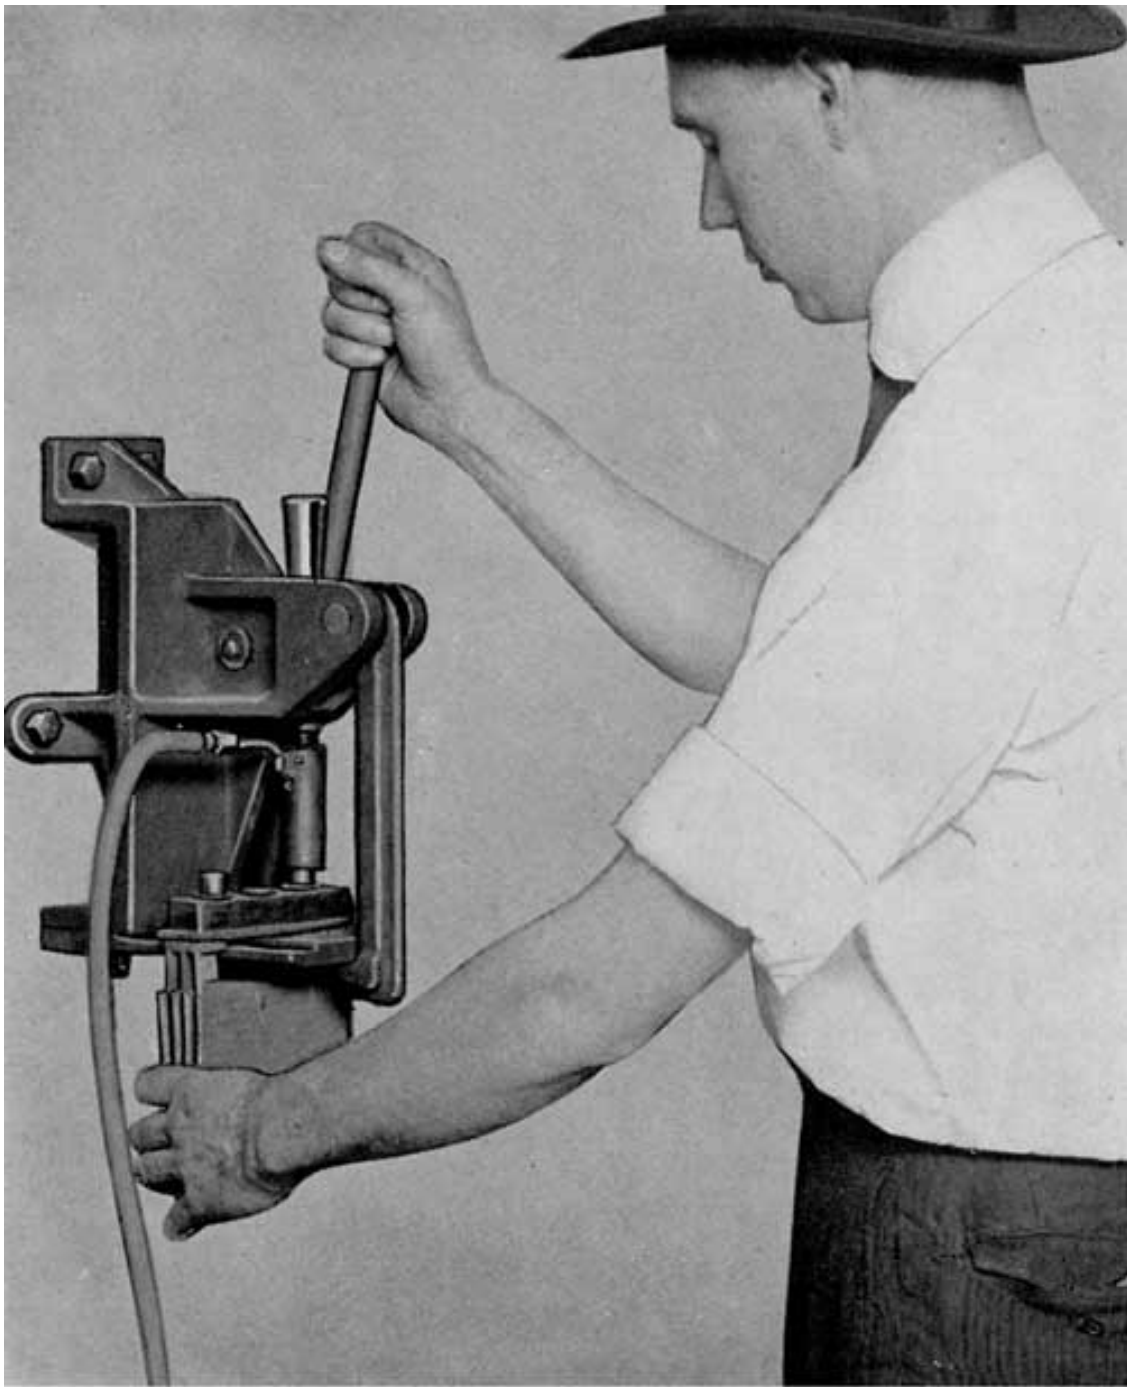

Fig. 253. Peening Prest-O-Lite Post
(4) Slide the element over the Bed Plate directly under Peening Tool, with the bottom of the plate connectors resting on the Bed Plate. (See Fig. 253).
(5) Pull down the Latch to hold the Bed Plate in alignment.
(6) Center the post with Peening Tool. Then force the Peening Tool down slowly until it has covered about two-thirds of the distance to the cover. Pause in this operation to allow the metal of the post to become heated; then force tool the rest of the distance. Raise the Peening Tool slightly and force down again.
(7) Release the Latch, withdraw and reverse the element, and repeat operations 4, 5 and 6 on the other post.
(8) The assembled groups are now ready to receive separators.